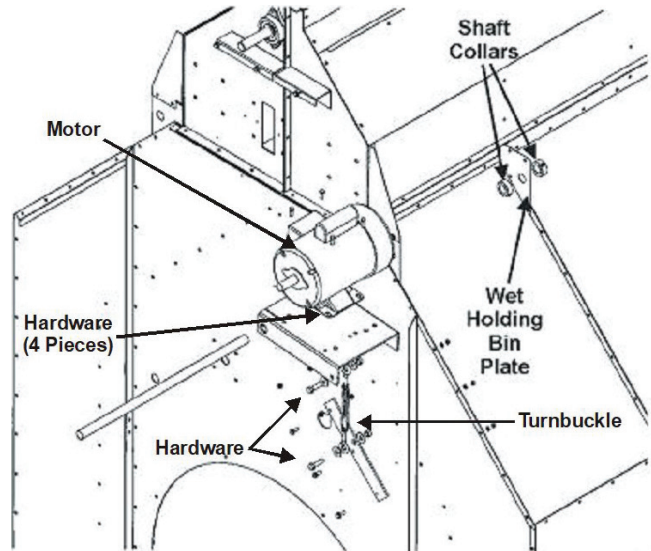

Fig. 2-21 - Motor mount components
2. Hold motor mount up to holes on side of wet holding bin. Slide a 1" conduit tube through motor mount plates and motor mount as shown in Fig. 2-21.
3. Position shaft collars on each side of motor mount plate as shown in Fig. 2-21.
1. Bolt turnbuckle plate to side of dryer. See Fig. 2-21.
2. Bolt turnbuckle between motor mount and turnbuckle plate using 1/2 x 1-3/4" bolts, 1/2" flat washers and 1/2" lock nuts. See Fig. 2-21.
3. Bolt motor to motor mount using 5/16 x 1" bolts and 5/16" nuts and washers. See Fig. 2-21